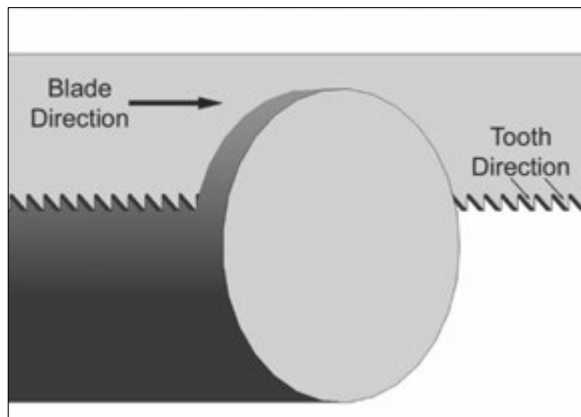

Figure 8-6
- 6) Install the new blade between the blade guide assemblies and around each wheel. Make sure blade teeth are pointing in the proper direction. See Figure 8-6.